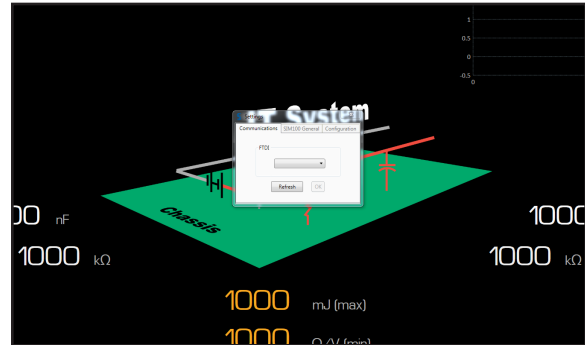

Figure 10: SIM100 GUI settings window
5. On the top left-hand corner, click on the “File” menu. On the drop-down menu, select the “Settings.” A settings window should appear on the screen (see fig. 10).